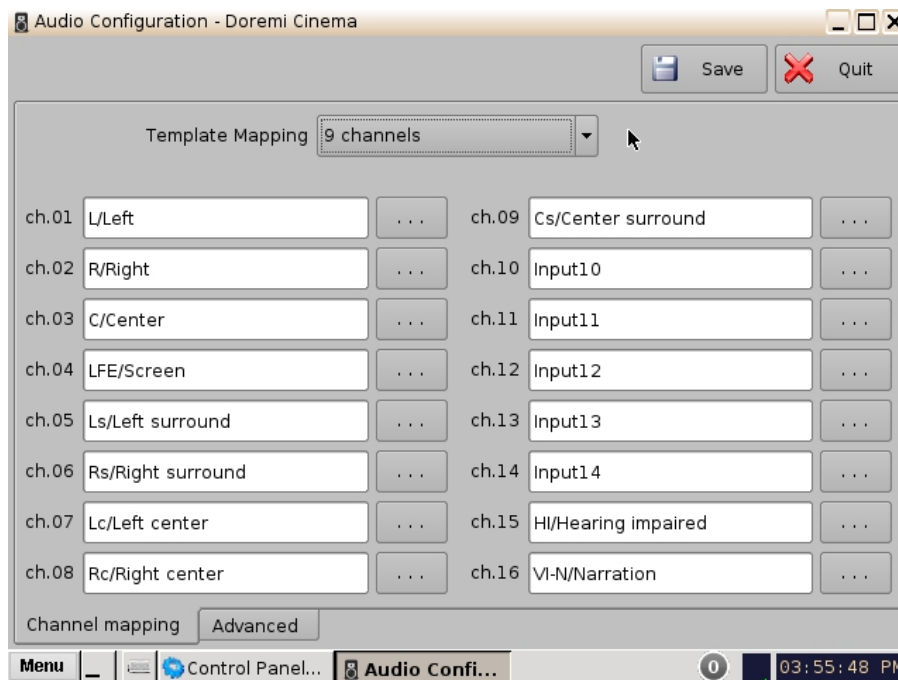

Figure 34: Audio Mapping Set to 9 Channels
- This configuration is defined as follows (Figure 34):
- **ch.01 is Left (L):** Output ch.01 will be playing the CPL's Left (L) audio channel.
- **ch.02 is Right (R):** Output ch.02 will be playing the CPL's Right (R) audio channel.
- **ch.03 is Center (C):** Output ch.03 will be playing the CPL's Center (C) audio channel.